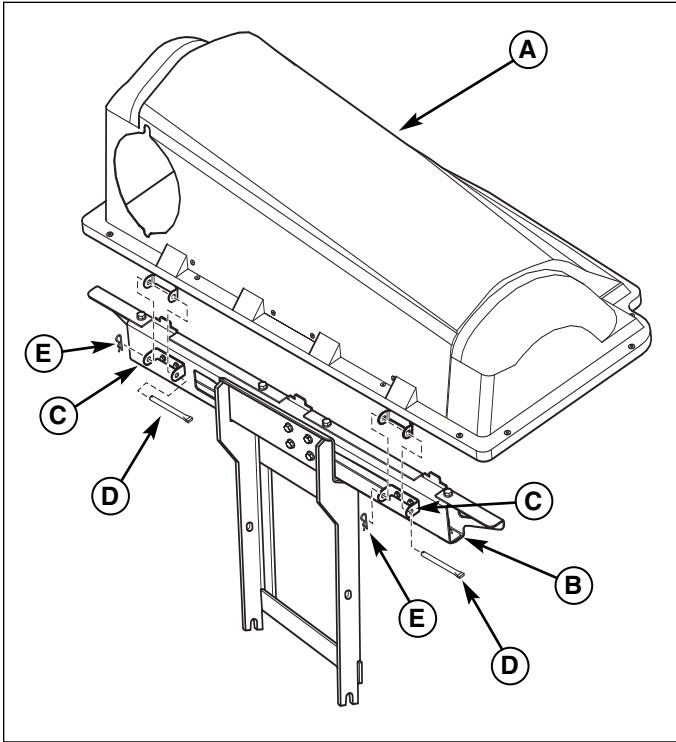

**Figure 8. Install Bag and Cover Support**
1. Install the bag and cover support (A, Figure 8) to upright support (B).
2. Secure with capscrews (C) and locknuts (D).